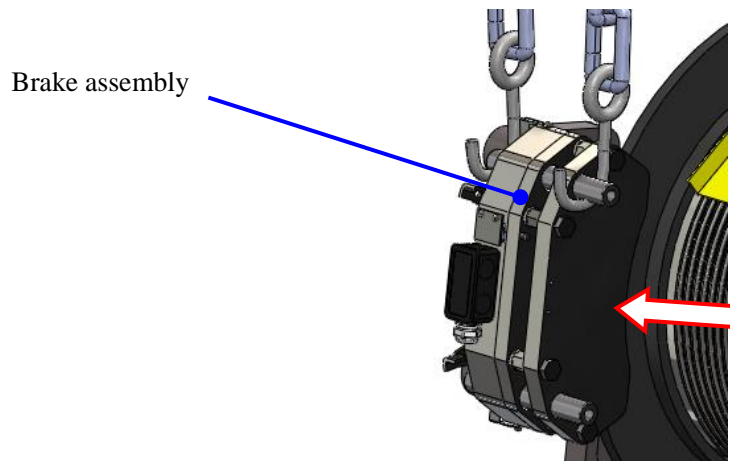

Figure 37: Brake removal
4. Open the brake by connecting to the power, and then remove the brake assembly. See Figure 37.